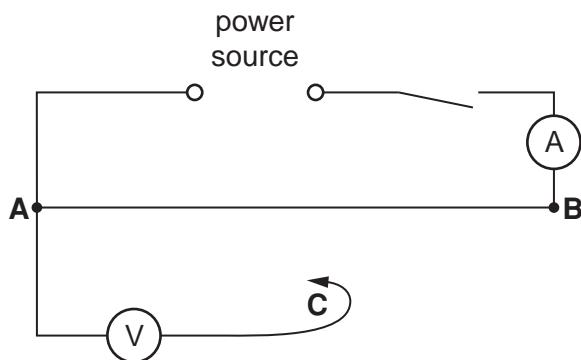

Fig. 3.1
- (v) Two suitable terminals (e.g. crocodile clips) attached to the constantan wire at the ends of the metre rule so that connections can be made to the circuit shown in Fig. 3.1.
- (viii) Sufficient connecting leads to set up the circuit shown in Fig. 3.1.
- The circuit shown in Fig. 3.1 must be set up for the candidates.